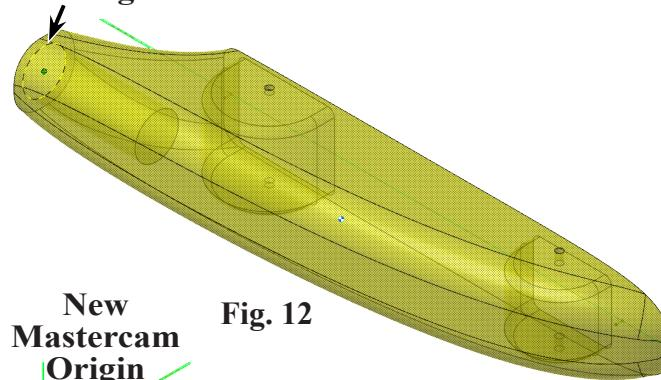

Fig. 12
Step 5. Click **arc of rear edge of cartridge hole** as point to translate from, **Fig. 12**. Be sure to select arc of hole.